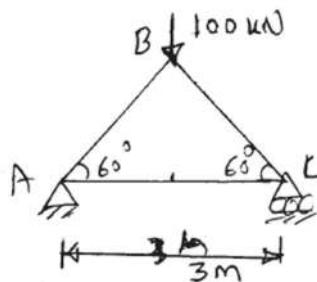

Fig. No. 8
- 17 Using method of joints calculate magnitude and state nature of forces in all members of the truss as shown in Fig. No. 8.